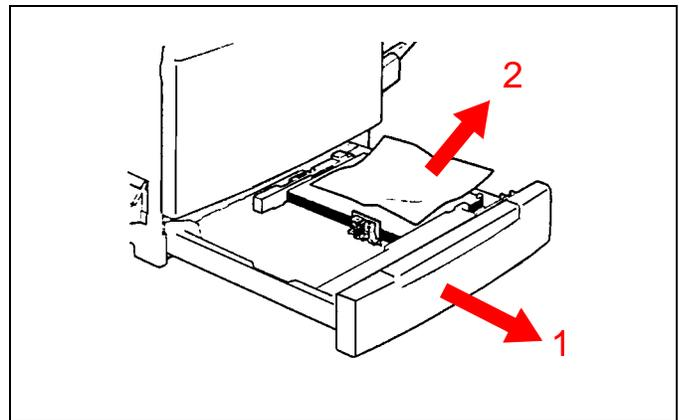

Figure 17
Show how to open the ADF to clear jams. See Figure 17.
1. See Figure 17. Slowly pull the paper tray out until it stops.